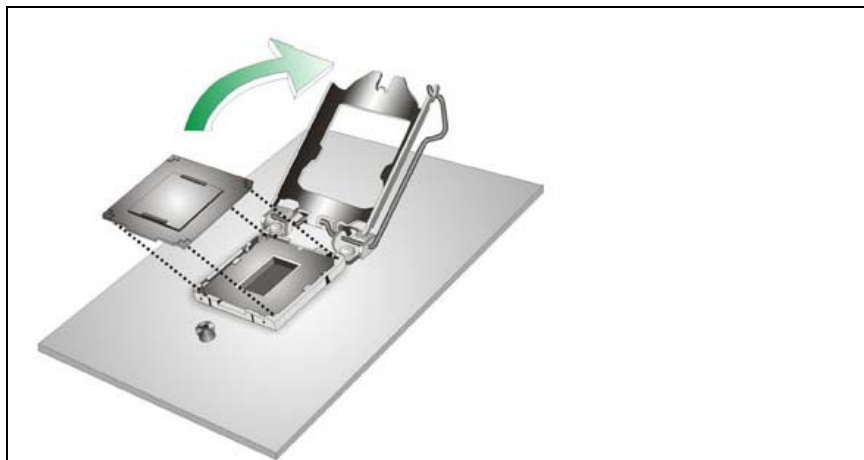

Figure 4-2: Remove Protective Cover
Step 2: Open the socket and remove the protective cover. The black protective cover can be removed by pulling up on the tab labeled "Remove". See **Figure 4-2**.